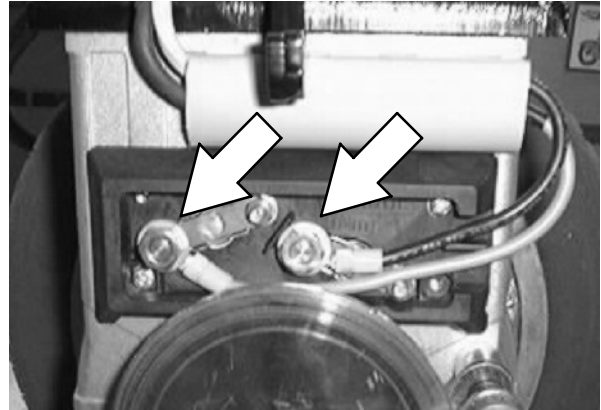

FIG. 19
30. Reconnect the wires to the drive motor. Refer to Fig. 19.